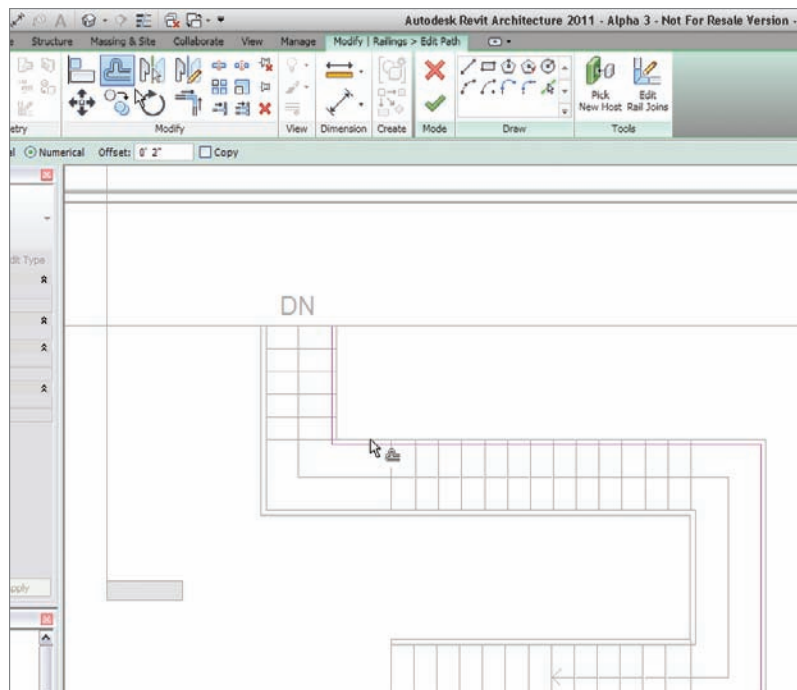

FIGURE 10.68 Offset the railing line down 2" from the original location.
1. In plan, select the top railing, as shown in Figure 10.68.
3. On the Edit panel, click the Offset button, as shown in Figure 10.68.
7. Make sure the dotted alignment line is facing the inside, as shown in Figure 10.68. (If it is not, press the spacebar to flip it.)